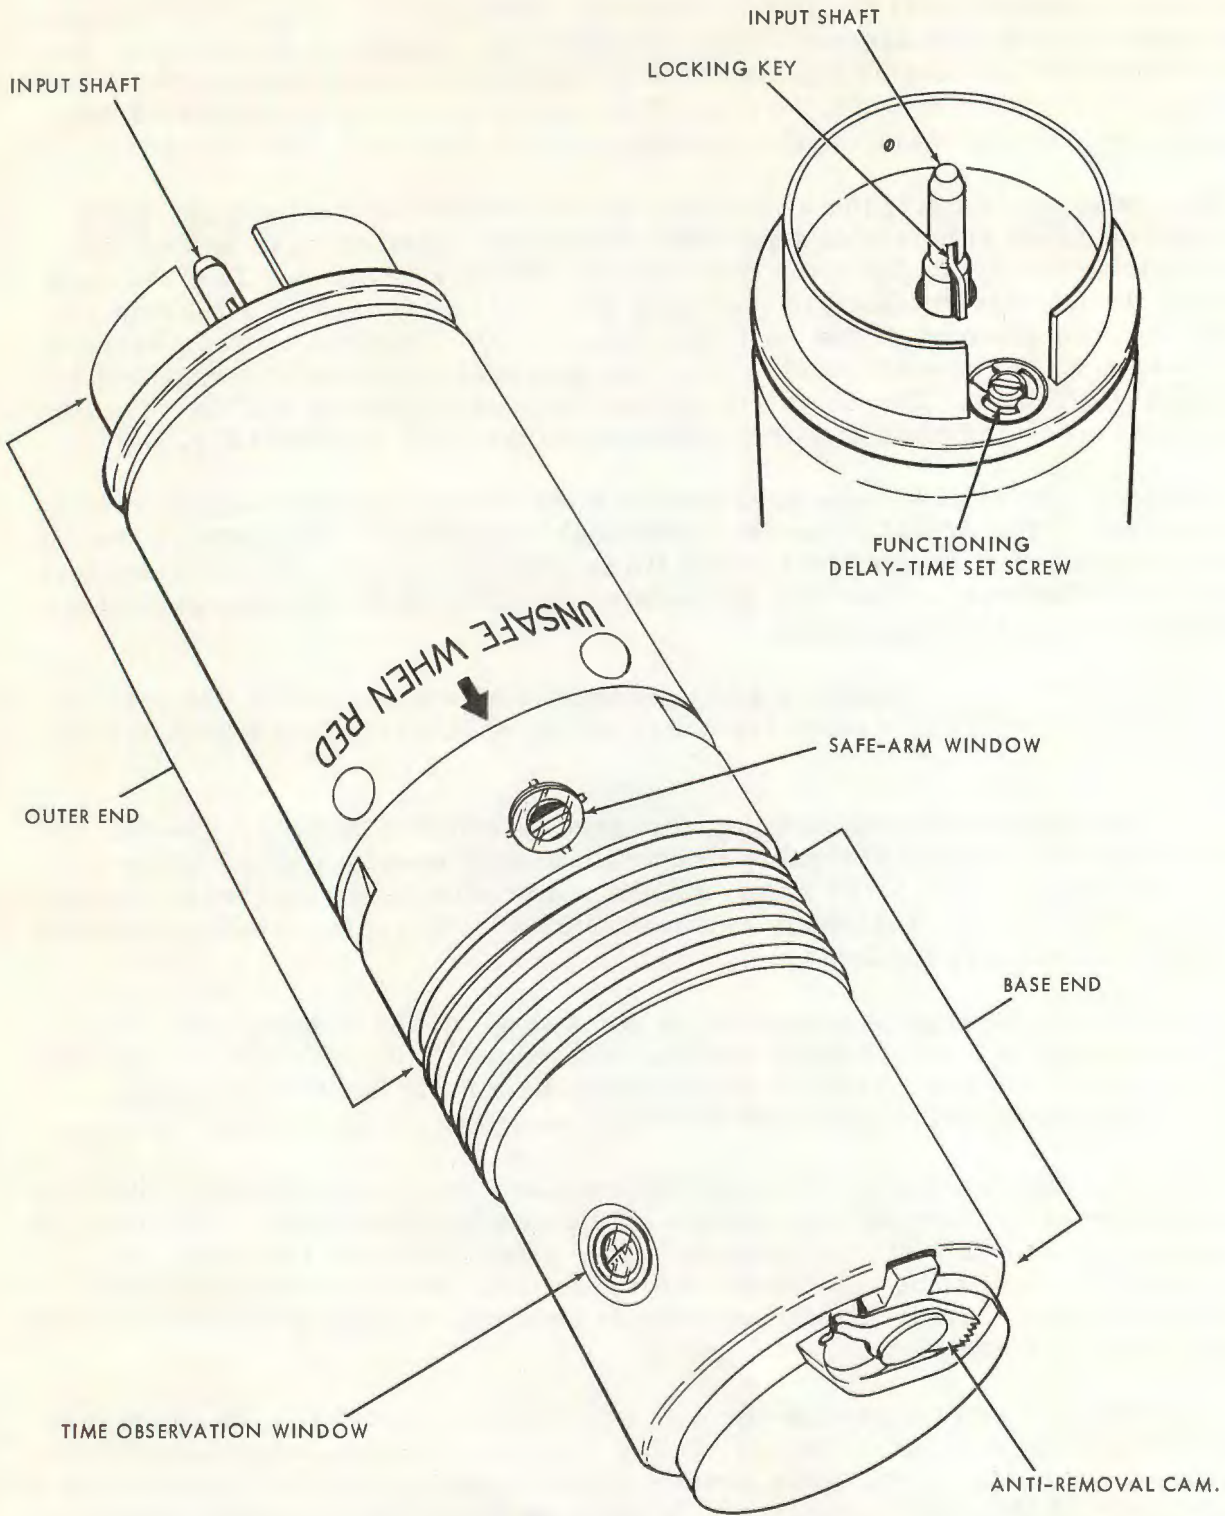

Figure 3-8 Mechanical Long Delay Fuze Mk 346 Mod 0;
Upon weapon impact, the anti-removal mechanism of the fuze operates. This mechanism consists of a toothed cam on the inner or base end of the fuze which effectively jams the fuze into the adapter booster. The T46-type adapter booster is retained in the bomb fuze well by means of a locking pin fitted into the grooves of the well (see Chapter 5). Thus the entire assembly is locked into the bomb in such a way that removal under field conditions is extremely difficult. The enemy is further impeded by being unable to see or alter the remaining time to burst indicated in the time window (Fig. 3-8).
3. Two-stage arming. The Mk 346 employs two-stage arming. The first stage is complete after 45 revolutions of the arming input shaft (Fig. 3-8) and requires a minimum of 1.5 seconds time after weapon release. To arm, this stage must be completed before impact. Impact causes second-stage arming to occur. The firing train is held out of alignment until second-stage arming is complete.
Functioning delay times in hours and increments thereof are pre-set by means of a screwdriver setting slot (Fig. 3-8) before the fuze is fitted in the tail well. If mission requirements change, the fuze may be removed and the new delay set in as required. (Removal is necessary because the delay time observation window (Fig. 3-8) is not visible when the fuze is secured in the fuze well.) At impact, the pre-set functioning delay is locked in, thus preventing the enemy from countering by changing the time-to-burst setting.
Fuze Mk 346 is shown in Figure 3-8. It is approximately 6-3/8-inches long and is threaded for a two-inch adapter booster well. For purposes of description, the term "outer" end and "base" end are used. The outer end is that which couples to the arming assembly; the base end is that which fits into the adapter booster well.
1. Prior to installation, check that the green band is visible in the safe-arm observation window (Fig. 3-8). If a portion of the red band is visible, the fuze is partially enabled (partial first-stage arming has occurred) and it should not be used. The fuze is safe for handling however. If the red band covers the window, set the fuze aside, away from explosive stores, and notify EOD personnel.
3. Check the input shaft for free movement. Depress the key (Fig. 3-8) and slowly rotate the shaft one turn. It should move freely without binding.
4. Using the screwdriver, check for free rotation of the functioning delay time setting mechanism and the setting dial in the time observation window (Fig. 3-8).
5. Using the screwdriver, set the selected time as indicated in the time observation window by means of the setting shaft slot at the outer end of the fuze (Fig. 3-8). The mechanism can be rotated in either direction.